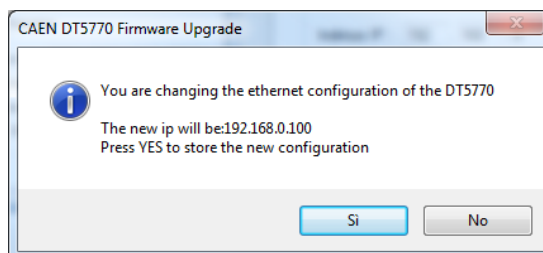

Fig. 12.4: IP change confirmation message
3. Click on the “Change User Settings” button and select “Yes” in the next confirmation windows to make the changes effective (see Fig. 12.4).